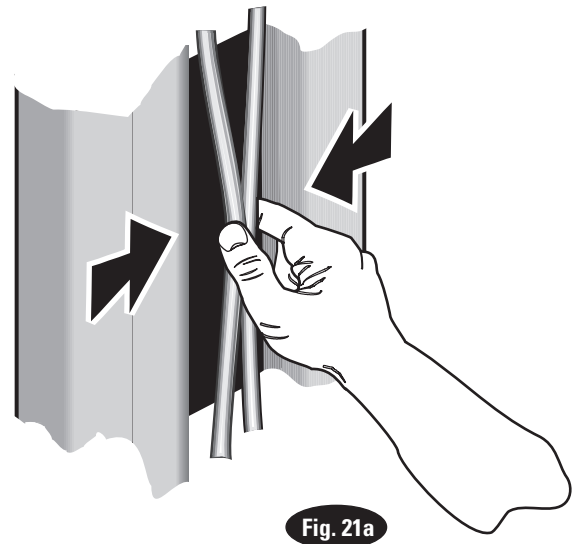

Fig. 21a
- 22. **Equalizer Cable Adjustments:** Raise lift to check equalizer cable tension. Below carriage, grasp adjacent cables between thumb and forefinger, with about 15 lbs. effort you should just pull the cables together. Adjust at upper tie-offs Fig. 21a.